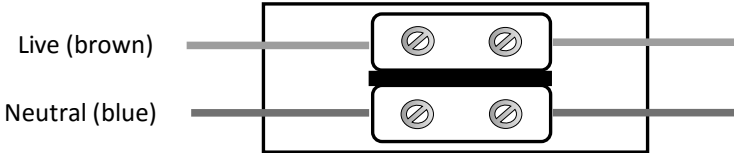

Fig 2
- Ensuring correct polarity is observed, carefully wire as shown in Fig 2